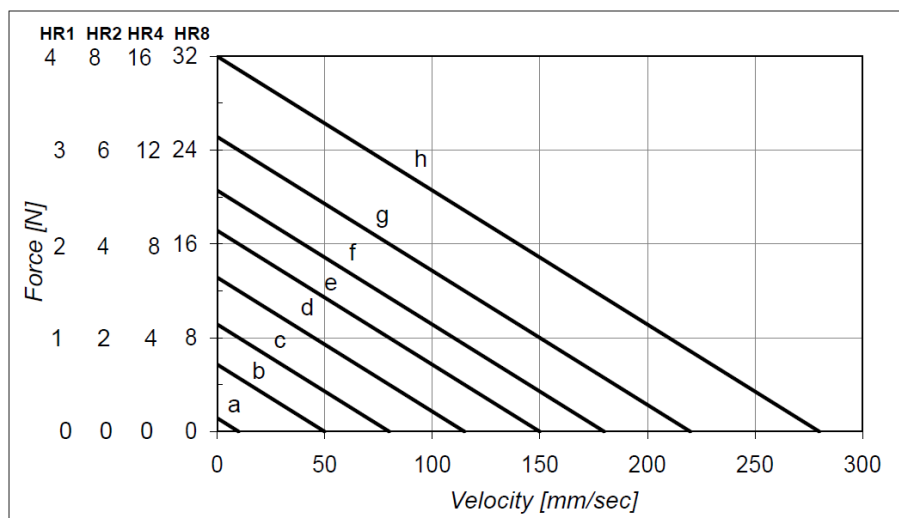

Figure 37: Motor Force vs. Velocity at the various work regimes linear mode (a-g)
- Determine the correct envelope of performance in Linear mode to avoid overheating and damaging the motor (See Figure 37 and Table 9).